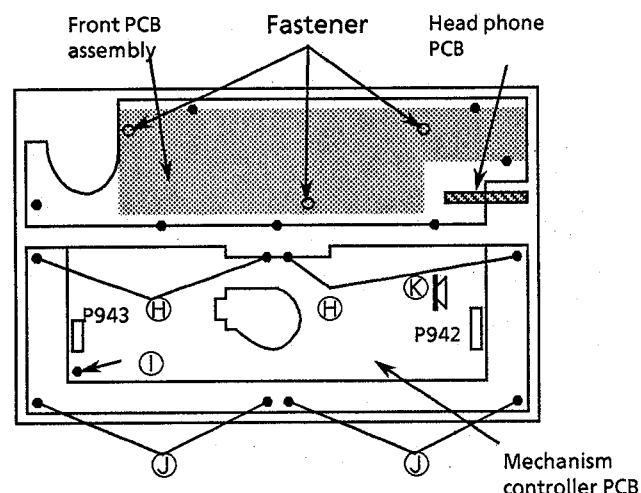

Figure 6 Rear view of the front panel assembly
4. Remove the 7 screws fixing the assembly (Figure 6).